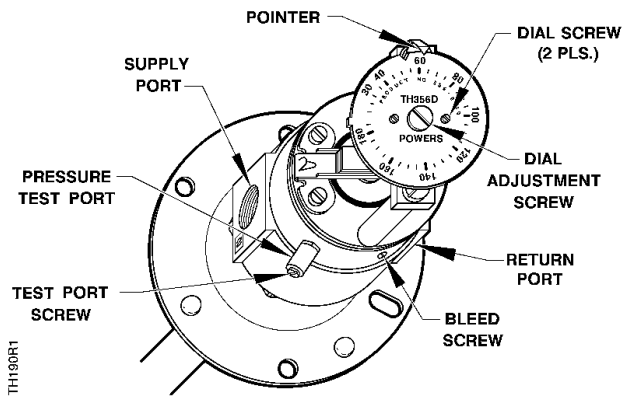

Figure 5. LIMITEM Cover Removed.
See Figure 5
1. Loosen the dial screws. (See Figure 5.)